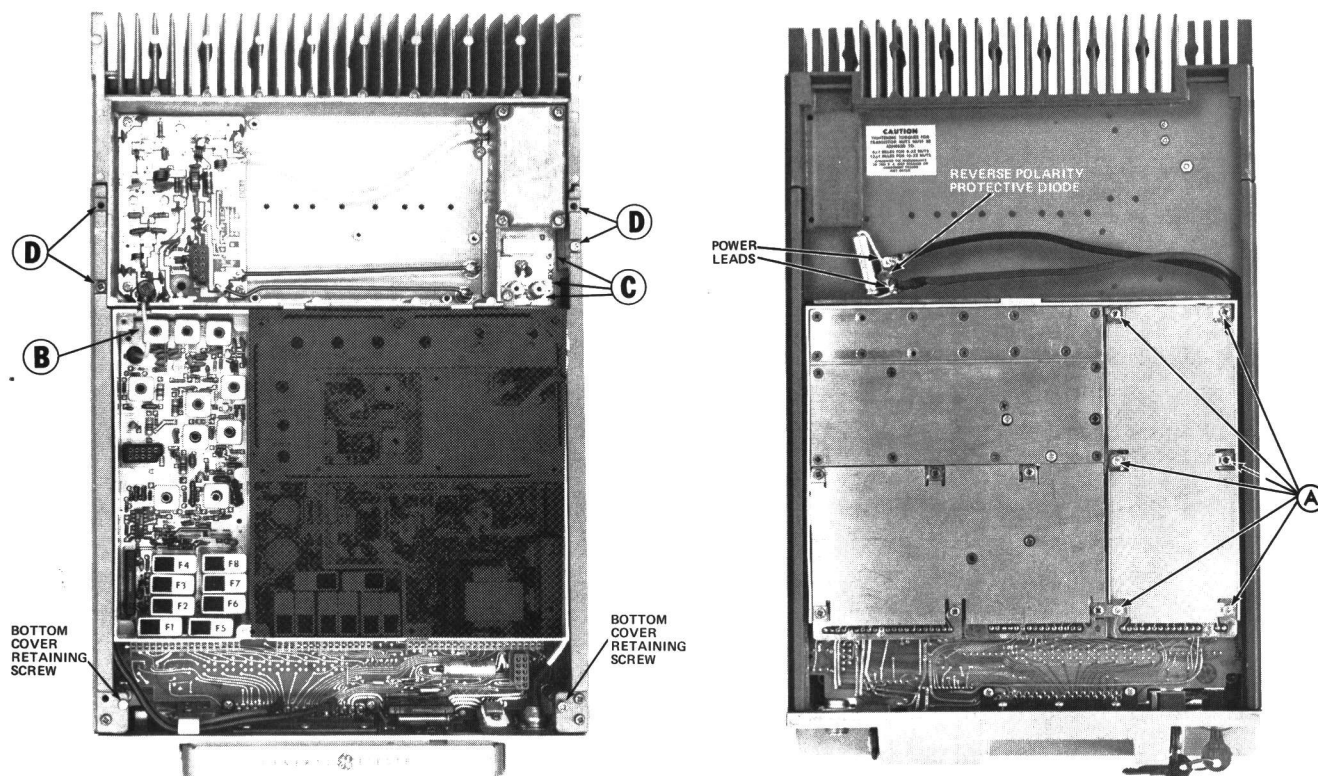

Figure 2 - Disassembly Procedure
2. Remove the top cover, then loosen the two bottom cover retaining screws and remove the bottom cover (see Figure 2).
3. To gain access to the bottom of the exciter board, remove the six screws (A) holding the exciter board
- To remove the exciter board: (see Figure 2)
1. Unplug the exciter/PA cable (B).
2. Remove the six screws (A) holding the exciter board and its bottom cover to the module mounting frame.
- To remove the PA assembly: (see Figure 2)
1. Remove the PA top cover and unplug the exciter/PA cable (B), the antenna, receiver and PTT cables (C).
2. Remove the four side-rail screws (D), and unsolder the power cables from the bottom of the PA assembly if desired.